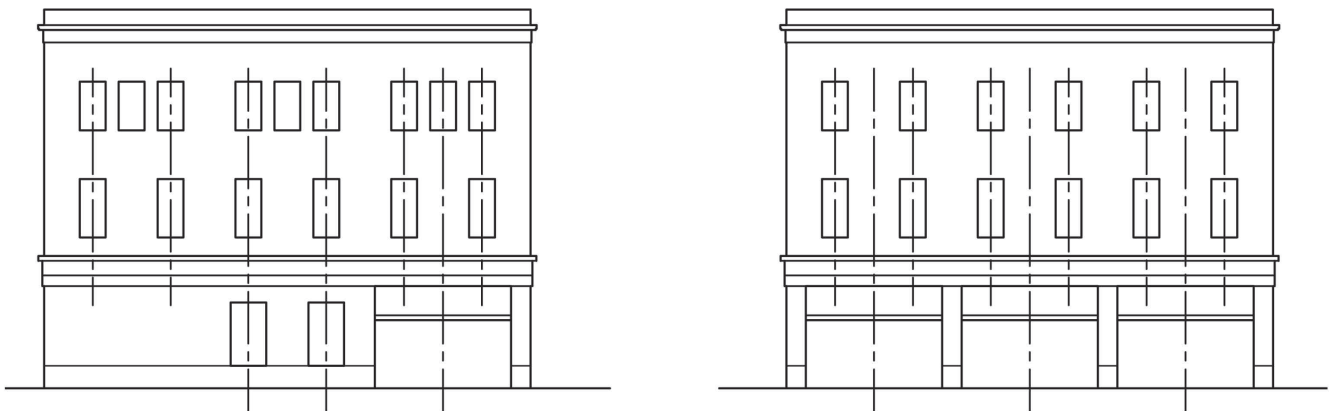

Figure 7
- » Centerlines of windows shall align vertically within any given facade. See Figure 7.